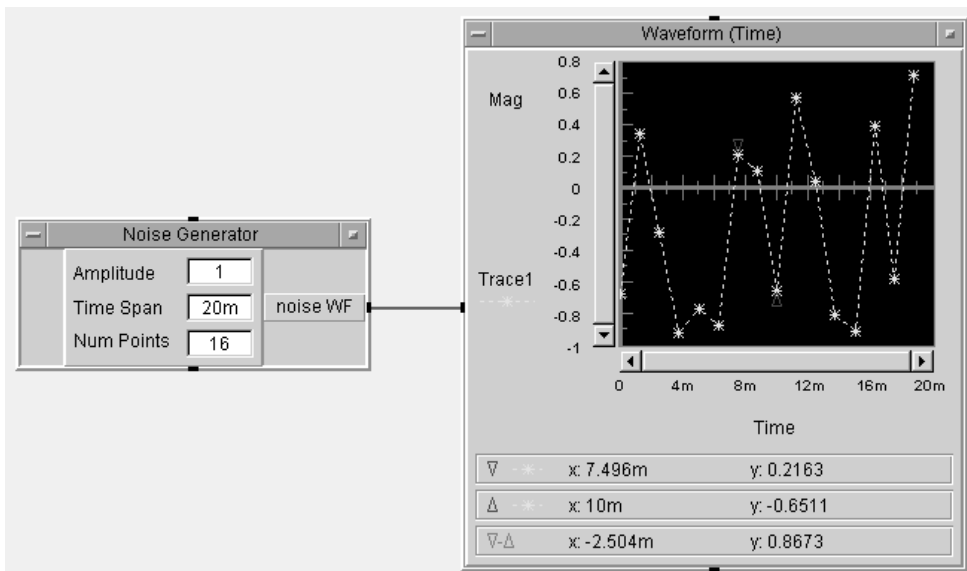

Figure 5.10. Delta markers on a Noise Waveform display
Note: You will see two gray arrows pointing up and down at one of the data points on the waveform. The display records the X and Y coordinates of these markers at the bottom of the display. Change their color so they stand out better via Properties; General – Marker; Pen 2 (red) seems to provide the best contrast as shown in Figure 5.10.
20. Measure the X or Y distance between two peaks by clicking-and-dragging the arrows to those peaks. You will see the markers move to those new peaks. See Figure 5.10. The new coordinates will be shown at the bottom of the display.